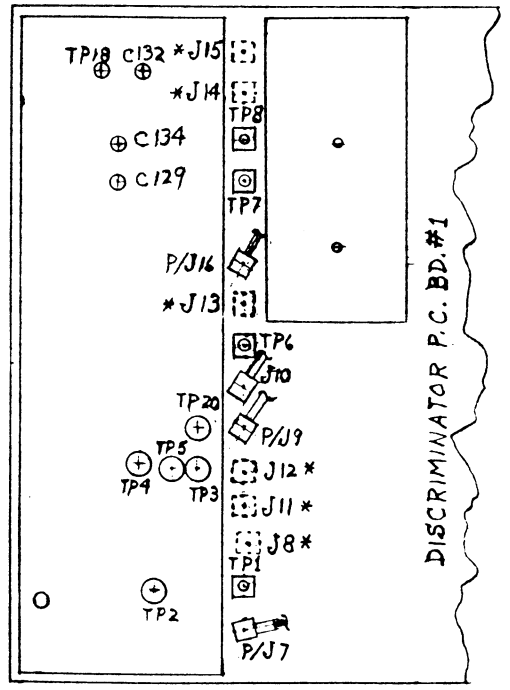

Figure 3-3 Top Of Discriminator P.C. Board #1
| 5.   | For Filter C (Presence of Signal Filter), Generator should be connected to J-13 (Input), and Analyzer connected to TP-7 (Output) for readings (Figure 3-3). |
42. Connect RF Counter to TP-1 to 475 MHz Oscillator on Discriminator Bd. No. 1 (see Figure 3-3). Use R-158 if fine adjustment is required.